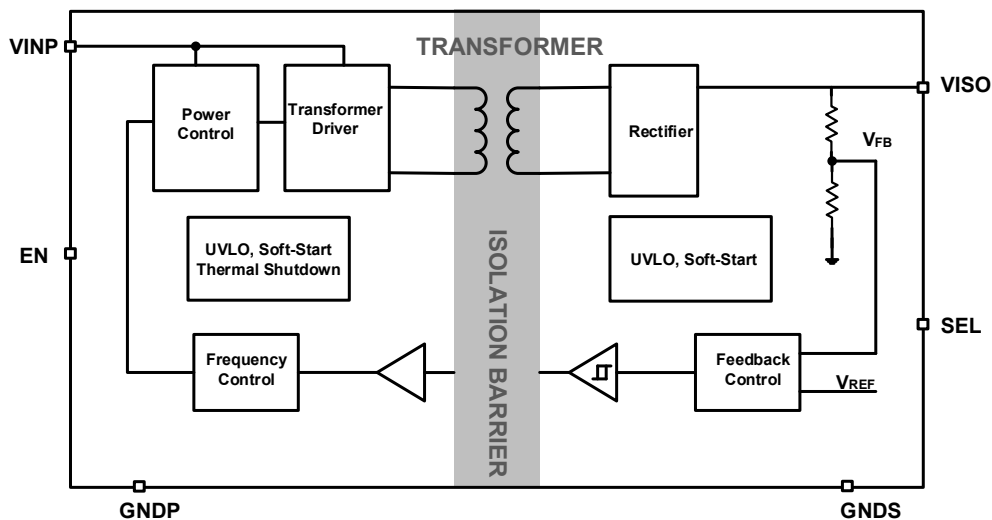

Figure 8-1. Functional Block Diagrams
The CA-IS3105W is a complete isolated DC-DC converter designed to provide isolated power with up to 650mW output power across a  $5kV_{RMS}$  isolation barrier. The device operates over 4.5V to 5.5V input voltage range and uses a proprietary control mechanisms. The input supply  $V_{INP}$  is provided to the primary power controller that switches the power stage connected to the integrated transformer. Power is transferred to the secondary side and regulated to a fixed output voltage set by the SEL pin. The soft-start feature allows to reduce input inrush current and avoid output overshoot. The device also incorporates an output enable (EN) control and undervoltage lockout function that allows the user to turn on the part at the desired input-voltage level. Figure 8-1 shows the CA-IS3105W's functional block diagrams. Connect the EN pin to  $V_{INP}$  or force this pin high to turn on the DC-DC converter. Force this pin low to disable the device and enter low-current shutdown mode. This device offers a ready-made, reliable, easy-to-use solution and allows users save PCB space and reduce design time for the popular 5V, 3.3V power supply systems.